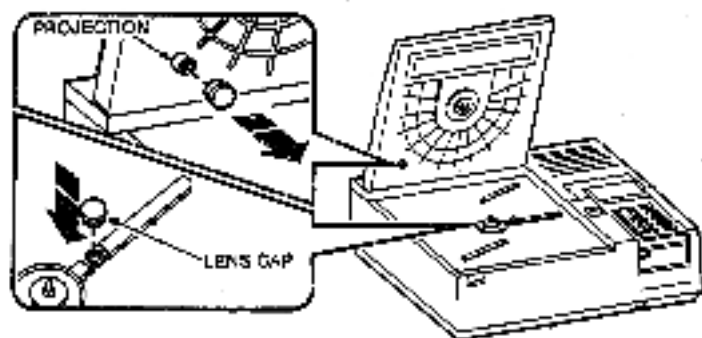

FIGURE 7-1
9. Tighten the shipping screw (Figure 7-1).